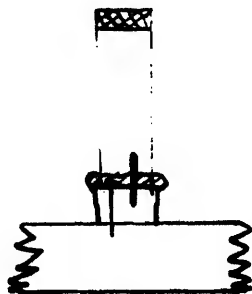
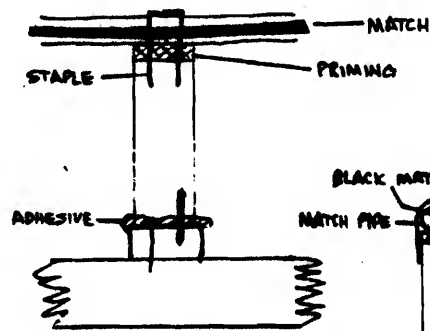
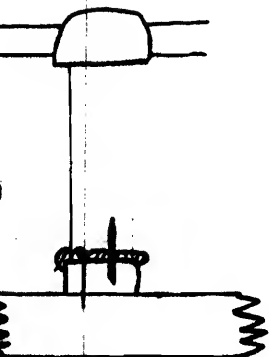

FIGURE 4
FIGURE 5
FIGURE 6
**Manipulation and Procedure:** When it has been decided what colors are to be used for the various parts of the design, take a handful of lances of the desired color and dip their bottoms into Prof. Pyro. Ad. to a depth of about  $1/8$ " and press one onto each of the nails until they are attached firmly to the rattan or stick forming the design (Figure 4). When the Adhesive has hardened, the frame is ready for matching. Take a length of quick match and, beginning at the upper left corner of the frame, staple it from one lance to another until the entire frame is covered, following the outline of the design as much as possible (Figure 5). The special staple guns available at Westech are ideal for this operation. In the past, it was necessary to pin the match to the lance and then pierce it with an awl. These staple guns, specially made for lance work, do both these operations at once and at a much faster rate. When the end of a length of match is reached, splice another to it, baring about 2" of the new length and slipping this bare end into the pipe of the preceding. It may be necessary to slit the pipe to accommodate the spliced piece. Secure it by wiring and pasting the joint or using masking tape. Now paste a strip about an inch wide (or use masking tape) over the top of the lance (Figures 6 and 7). When the design is large enough that it requires more than one frame, leave about 2' of match projecting from the lower right corner of each frame so that each can be connected to the one next to it in the final assembly. Also, on one of the bottom frames, leave a leader of match long enough to light the device.